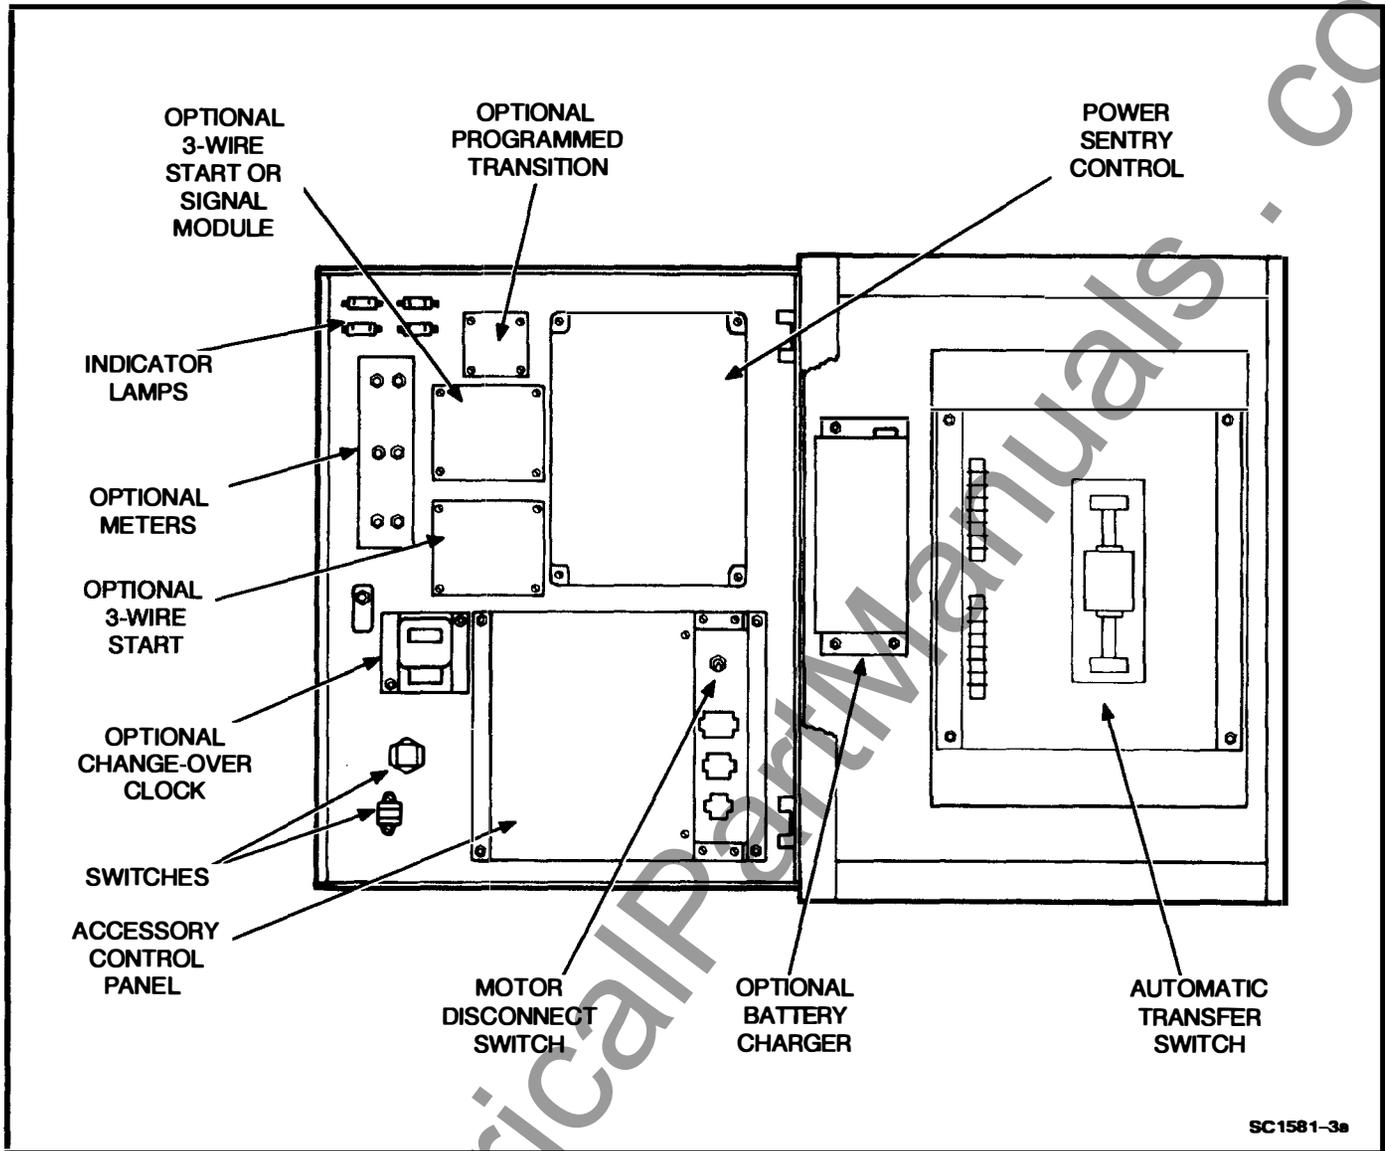

FIGURE 5-3. GENERATOR SET-TO-GENERATOR SET TRANSFER SWITCH CABINET INTERIOR
The transfer switch (Figure 5-3) opens and closes the contacts that transfer the load between source 1 and source 2 generator sets. The transfer switch is mechanically interlocked to prevent simultaneous closing to both power sources. The main parts of the transfer switch discussed here are the contact assemblies, linear actuator, Motor Disconnect switch, and auxiliary contacts.
The most important component of the electronic control system is the Power Sentry control (Figure 5-3). The Power Sentry includes voltage sensing circuits, time delay circuits and control relays. There are also several adjustment potentiometers and indicator lamps on the Power Sentry. The adjustments must be performed only by qualified service personnel.
**Place the Motor Disconnect Switch (Figure 5-3) in the Off position when making adjustments. Return the switch to the Auto position after adjustments are completed.**